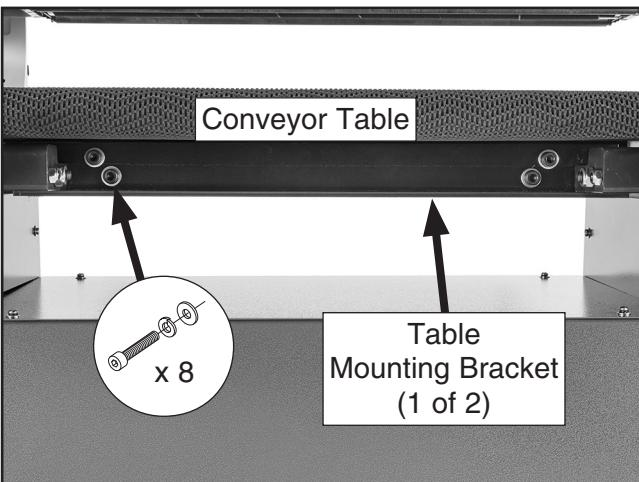

Figure 23. Table mounting bracket attached to table frame.
22. Attach (2) table mounting brackets to table frame under conveyor table with (8) M8-1.25 x 16 cap screws, 8mm lock washers, and 8mm flat washers (see **Figure 23**).